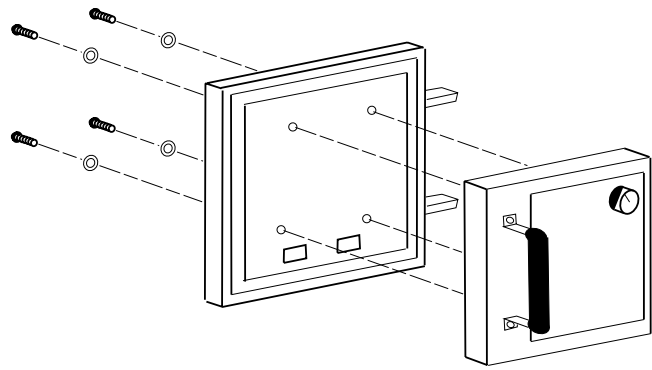

Fig. 9
2. Assemble the feed door pull handle as shown in Figure 9. Install thermostat assembly and cover (complete with handle) as illustrated in Figure 9.
3. Align thermostat control knob with flat on thermostat control shaft and press onto shaft. (See Fig. 9)